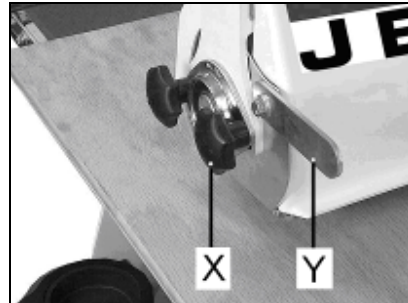

Fig 19
The brush-drum outboard bearing can be adjusted up/down (Fig 19)
Loosen the 2 star-knobs (X, Fig 19) and raise the outboard end of the drum with the adjust lever (Y).